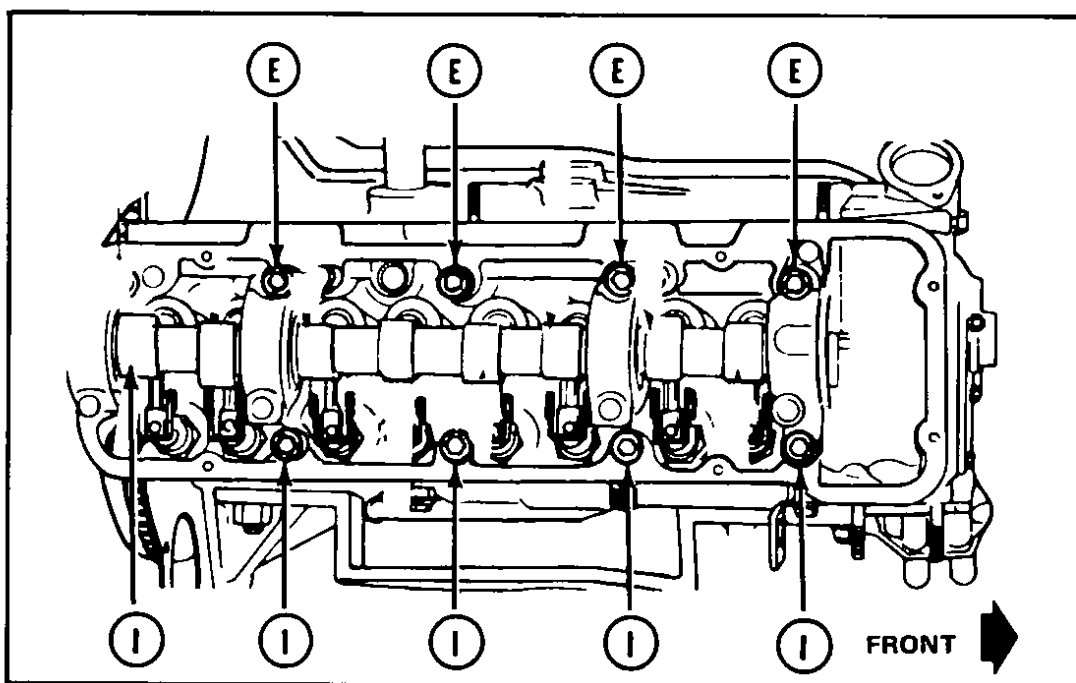

Fig 133 Valve adjustment — Models 610 and 710
- 5 Measure the clearance under that valve, first noting whether it is an intake or an exhaust valve, Fig 133. Do the same for any other cam lobe pointing straight up.